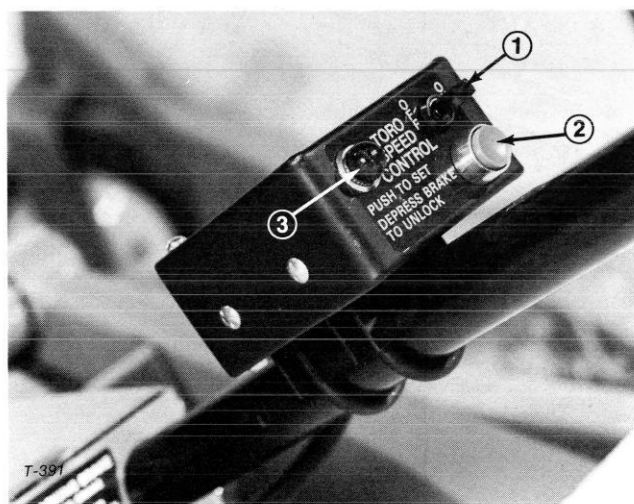

Figure 39
1. Make sure traction pedal is in neutral position. Turn ignition switch in machine control panel to RUN position, and toggle switch on cruise control panel to ON (Fig. 39).
2. Press button in cruise control panel (Fig. 39). The clutch plate should be pulled against the coil when button is depressed; if plate does not move, coil is not energized. Check wire connections. If clutch plate moves, proceed to step 3.
4. Depress brake pedal; clutch plate should move away from coil and light should go out on panel (Fig. 39).
7. Sit on seat. Make sure traction pedal is in neutral position, turn machine ignition switch to RUN and cruise control switch to ON position (Fig. 39).
8. Push cruise control actuating button to draw clutch plate against coil (Fig. 39).
3. Hold pedal in position, turn cruise control switch to ON and depress actuating button (Fig. 39).